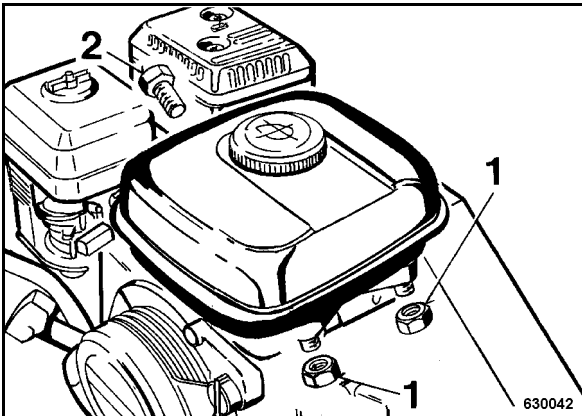

Fig. 42
- For this purpose unscrew hexagon nuts (1) (Fig. 42) and hexagon screw (2).